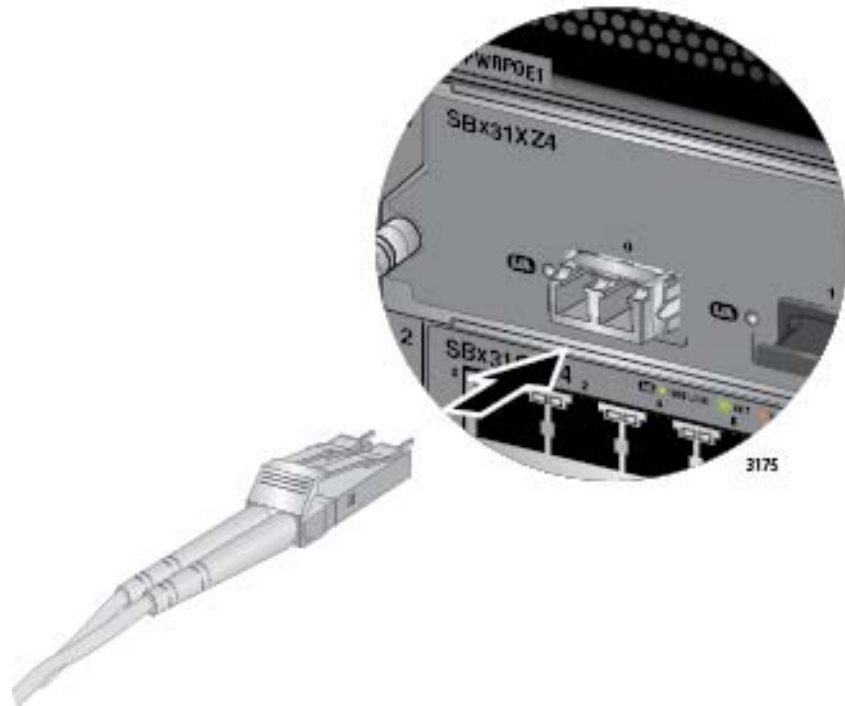

Figure 105. Attaching a Fiber Optic Cable to an XFP Transceiver in the AT-SBx31XZ4 Line Card
6. Connect the fiber optic cable to the port on the transceiver, as shown in Figure 105 on page 163. The connector should snap into the port.